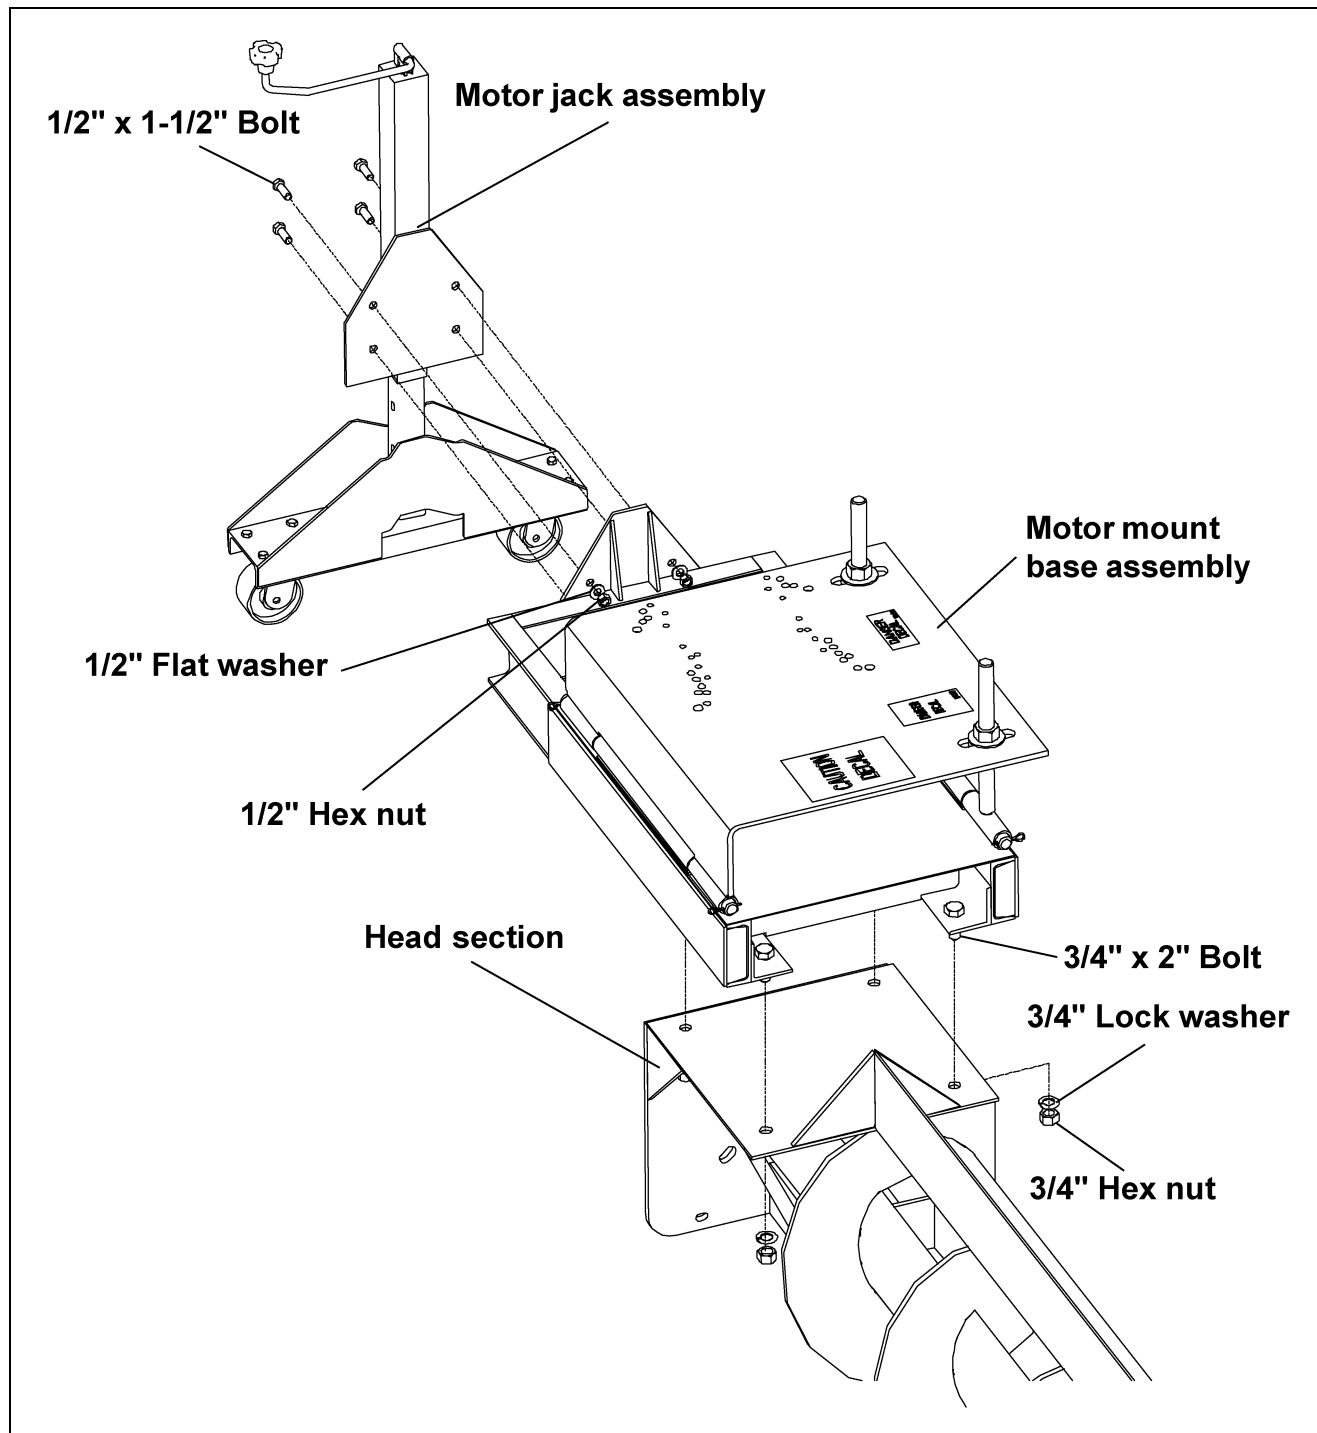

Figure 5V
- A. Attach the motor mount base assembly to the head section using four (4) 3/4" x 2" bolts, lock washers and hex nuts. (*See Figure 5V.*)
- B. Attach the motor jack assembly to the motor mount base assembly using four (4) 1/2"-13 x 1-1/2" bolts, 1/2" flat washers and 1/2" hex nuts.